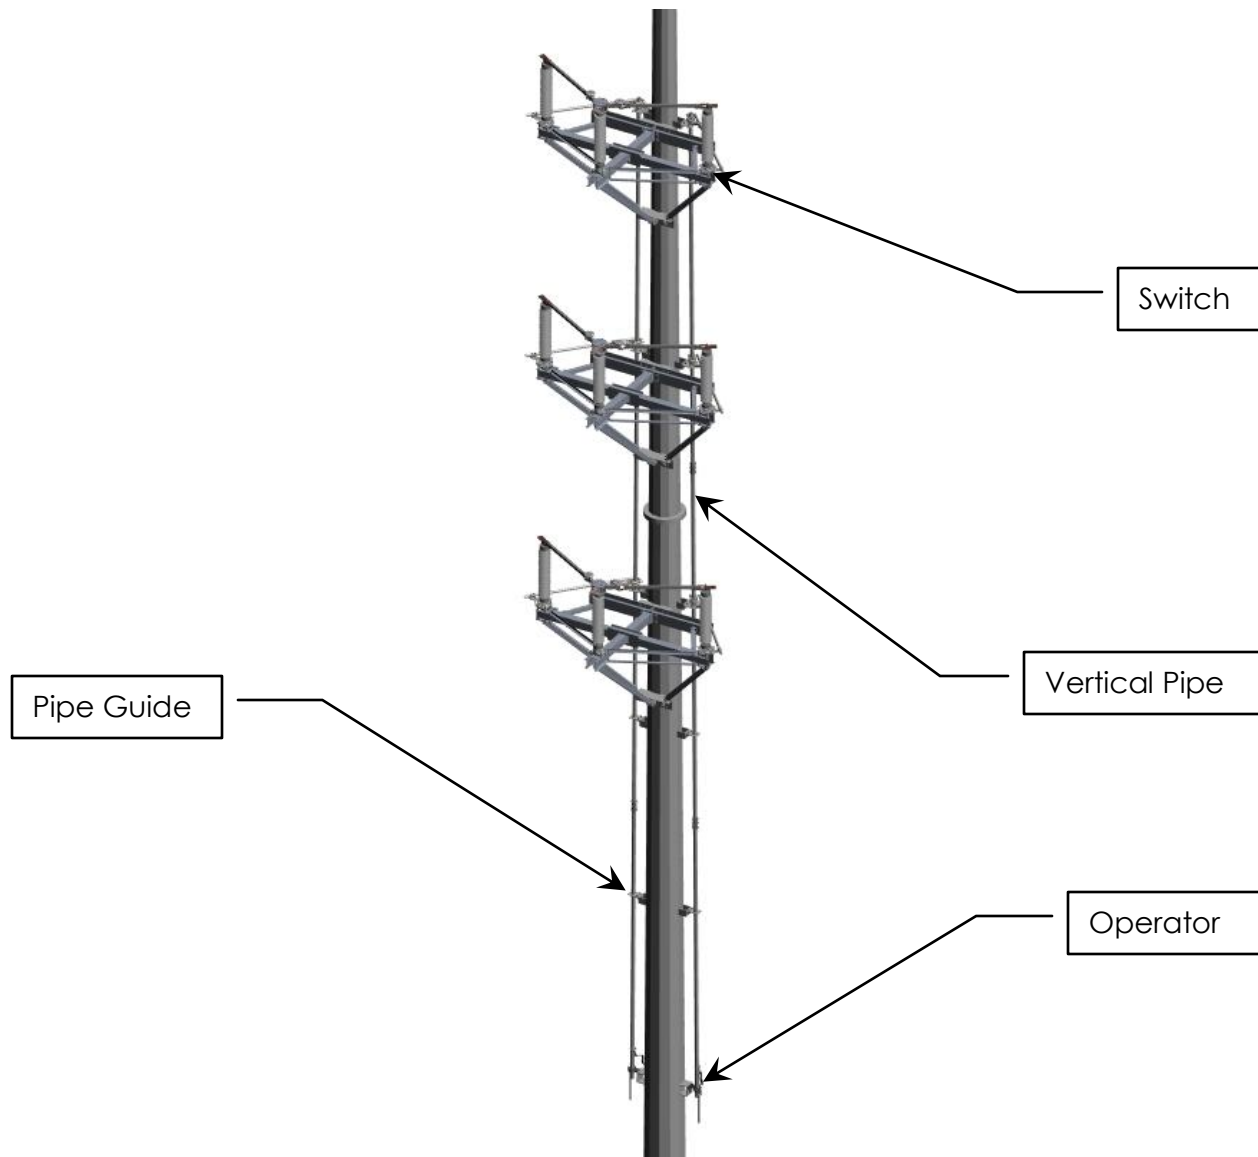

Figure 21: Typical 2 Way ES-1 Operation Mechanism
3. Refer to the Operating Mechanism drawing and install all mounting brackets, bearings, and bushings to the pole. See Figure 21 for a typical 2 Way ES-1 Operating Mechanism.
- a) Start with the disconnect switch and operating mechanism in the closed position. See Figure 21.